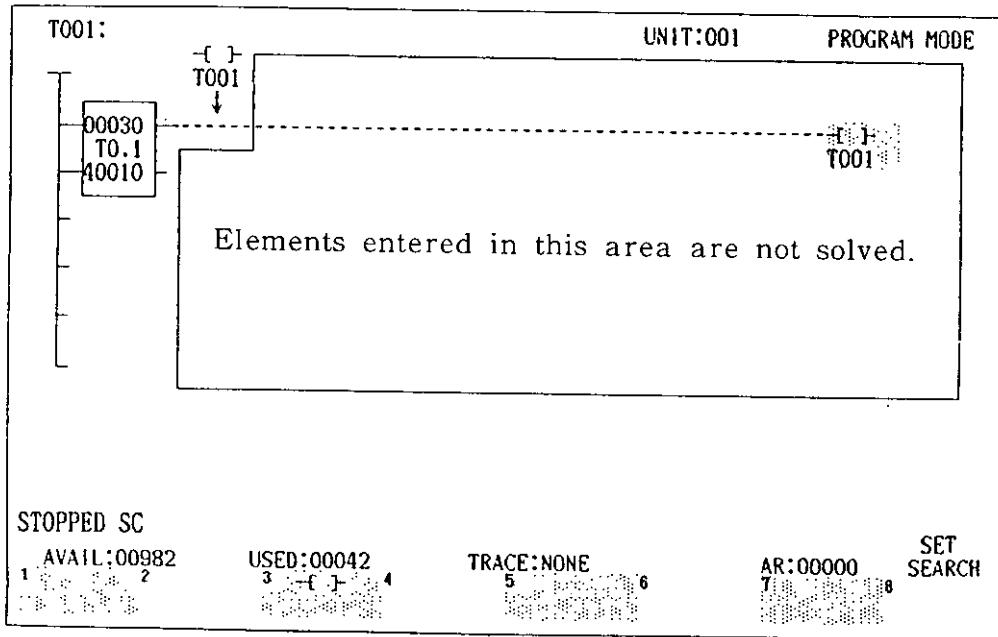

Fig. 5.121
5. Once a transition coil is solved in a transition condition circuit, this prevents solving of the elements in the columns to the right of the transition coil and in the lines under the transition coil. Refer to Fig. 5.121.